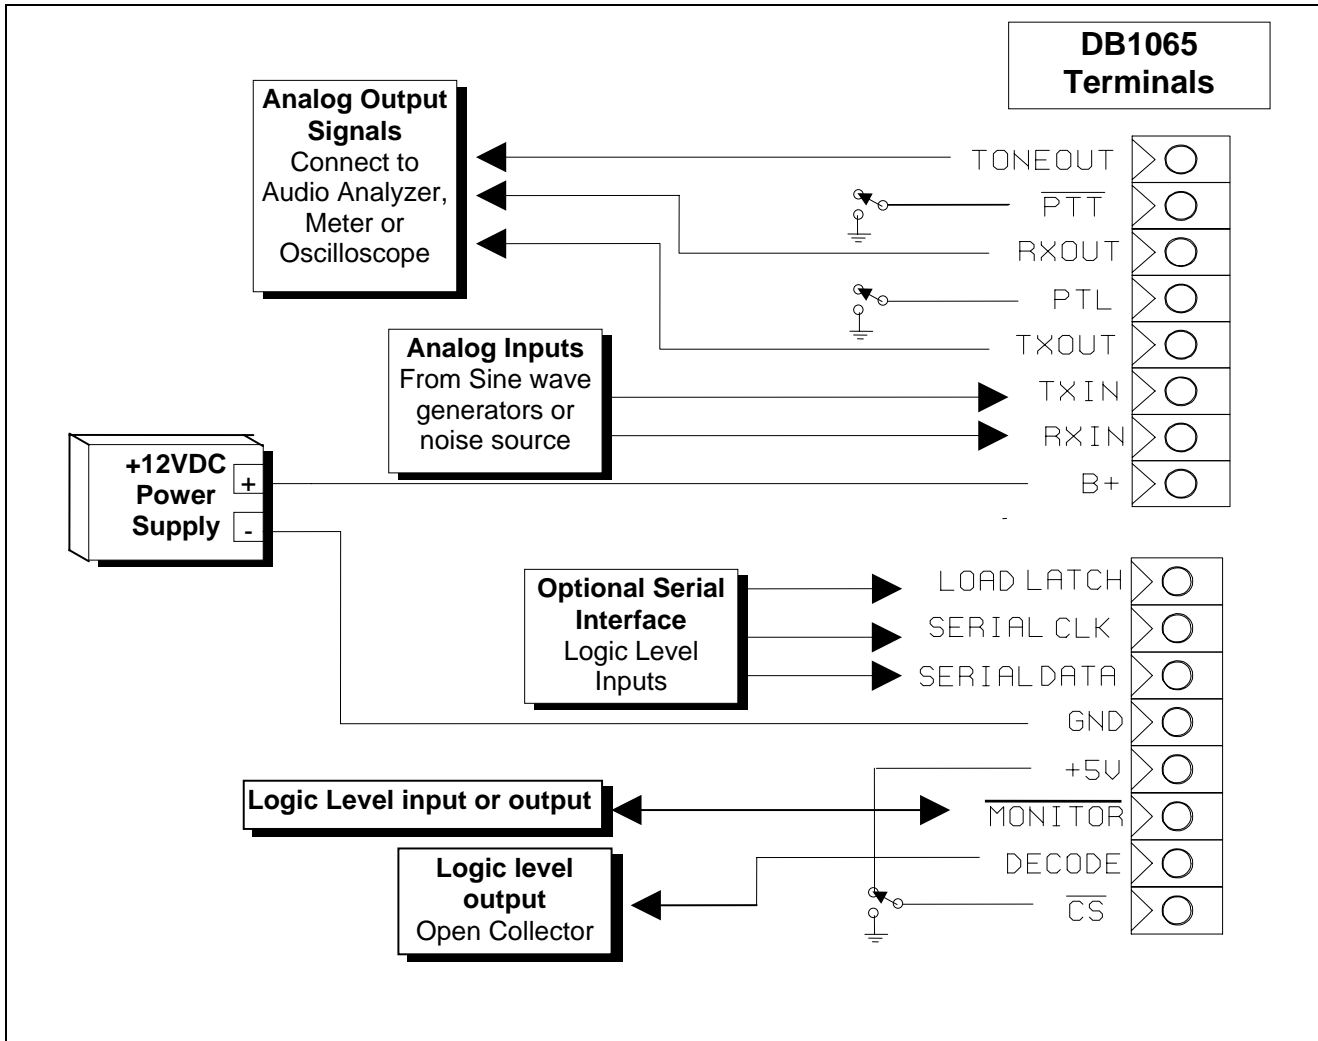

Figure 1: Test Equipment Connections
- b. Refer to Figure 1: Test Equipment Connections, on page 7 and Figure 7: DB1065 Schematic, on page 20 to connect test equipment to the DB1065 development board.